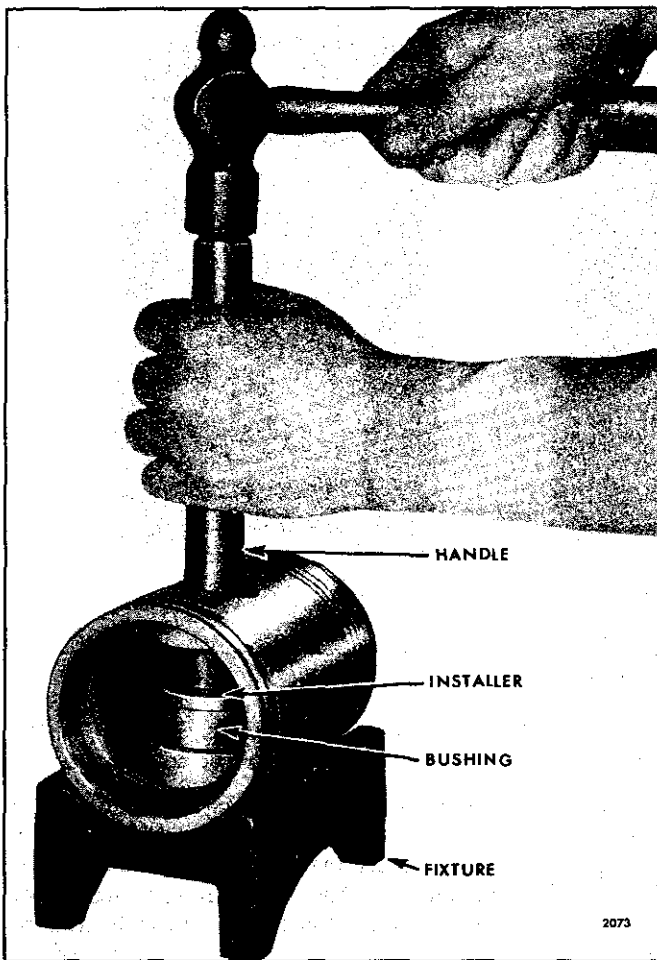

Fig. 5 – Removing or Installing Piston Pin Bushings
2. Drive each bushing from the piston (non-turbocharged engines) with the bushing remover J 4972-4 and handle J 1513-2 (Fig. 5).